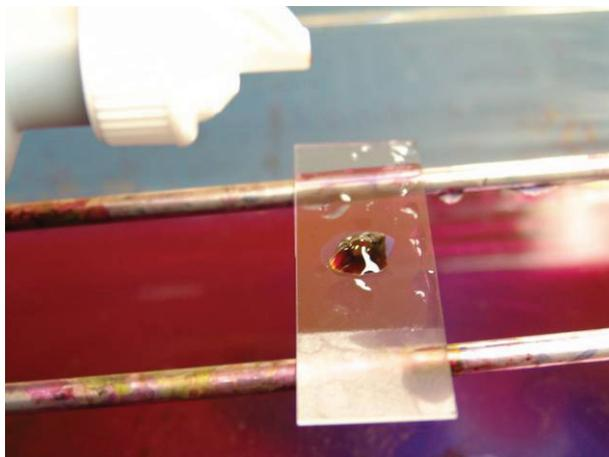

Figure 5: Sample covered with iodine mordant
- 9.5. Figure 5: Sample covered with iodine mordant